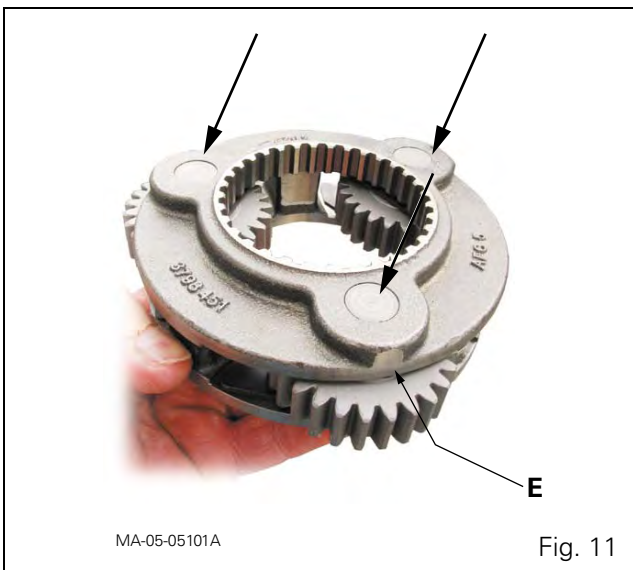

Fig. 11
20. Position the input planet carrier (1) under a press and on top of a plate pierced with a hole to allow removal of the pins (12).
21. Drive out a pin using the press and a makeshift drift (Ø 12 mm) in the direction of the arrows (Fig. 11).
NOTE: The pin is force fitted into part E of the planet carrier (Fig. 11).